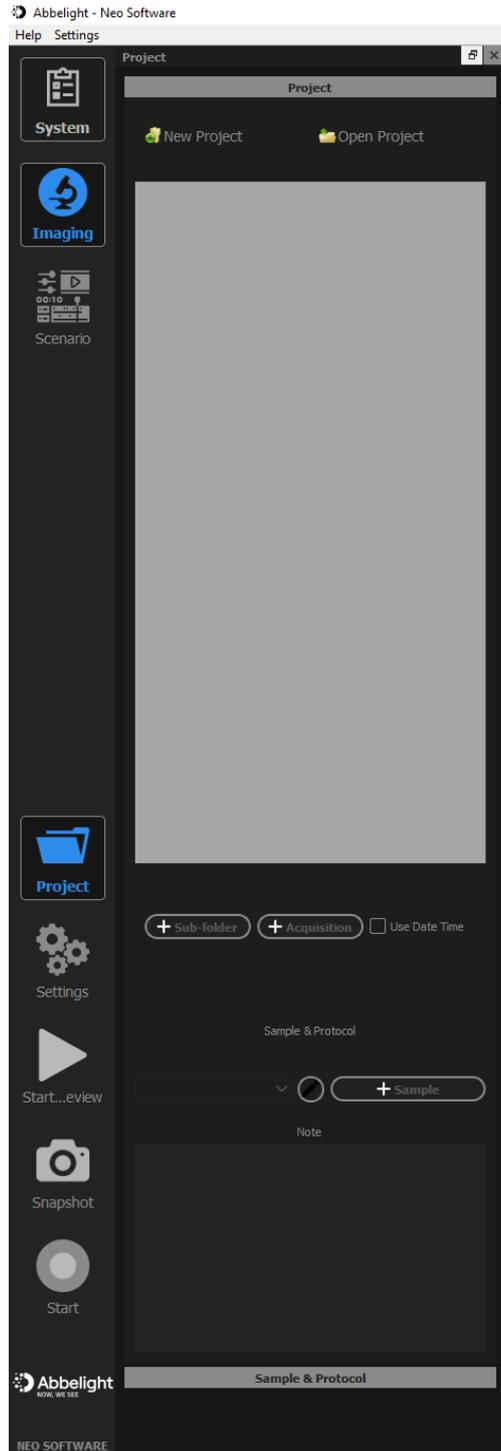

Figure 9: Project window.
5. Click on “Imaging,” then “Project,” then “New Project” (Fig. 9).